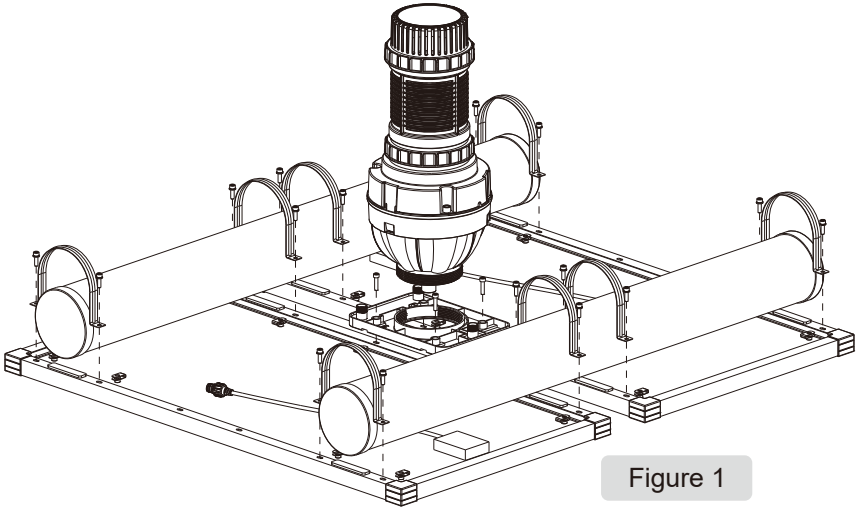

Figure 1
- 3) Join the two solar panels with center mounting bracket and floating barrels as shown in **Figure 1**.